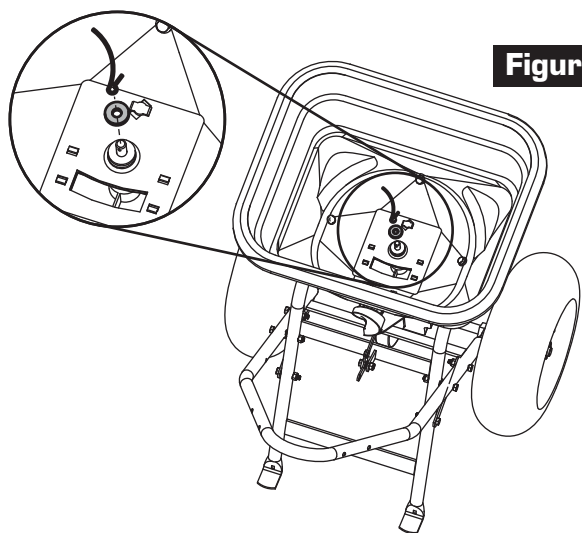

Figure 7
7. Inside the hopper, assemble the Felt Washer and Agitator Wire onto the Spinner Shaft as shown in Figure 7.
NOTE: Notice orientation and sweep of Agitator Wire (Shown in Figure 7)